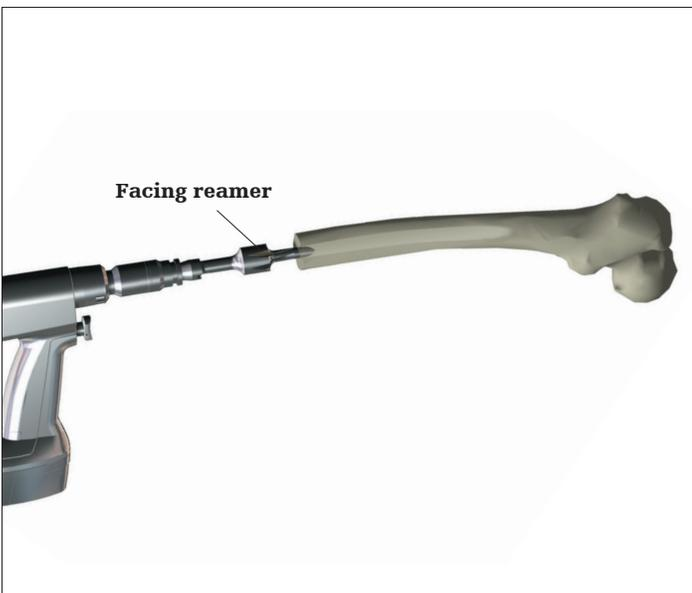

Figure 5
**Surgical tip:** It is preferable to resect the femur a millimeter or two distal to the marked resection level. This will allow the facing reamer (**Figure 5**) to plane accurately up to the mark at a 90° angle.
The appropriate Facing Reamer (**Figure 5**) is used to plane the osteotomy site so as to ensure direct contact and accurate seating of the prosthesis upon the cortices.